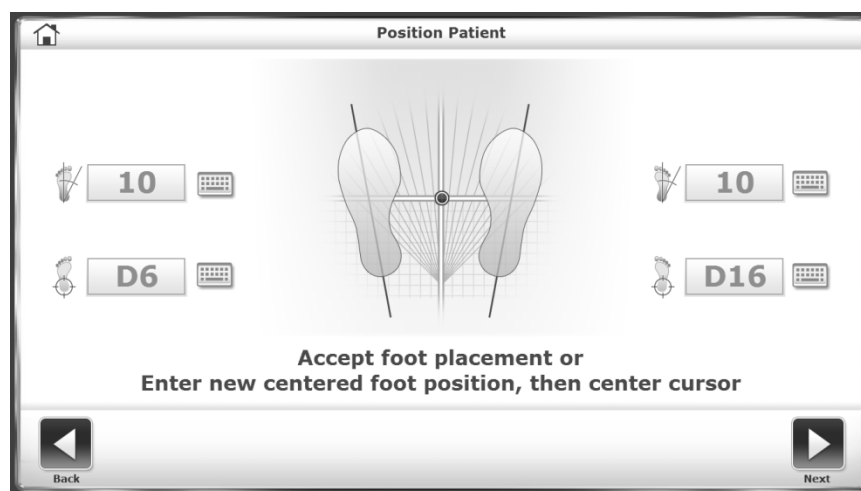

Figure 4.3. Position Patient Screen.
- Position the patient's feet for center of gravity (see Figure 4.3). Make sure the patient continues to stand in the center of the platform for safety and for good data collection.
1. Have the patient stand in a natural stance on the static platform. The Position Patient screen displays the patient's center of gravity as a dot (see Figure 4.3).